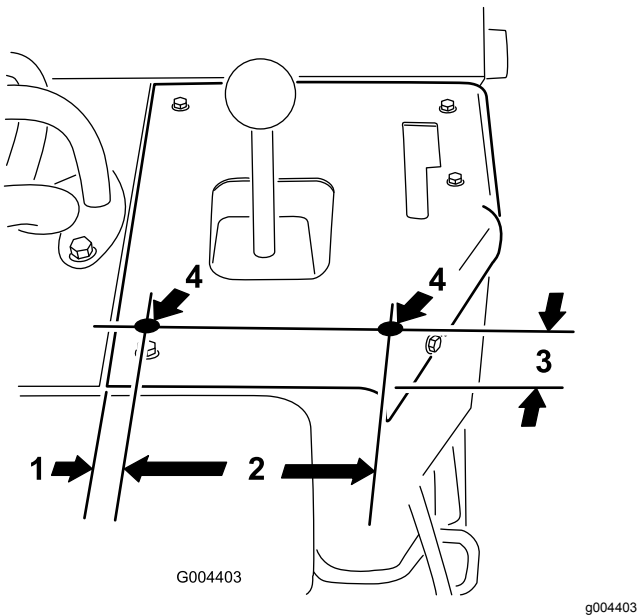

Figure 8
2. Locate and drill 2 holes—9.5 mm (3/8 inch diameter) on the control panel below the loader arm lever, as shown in Figure 8.